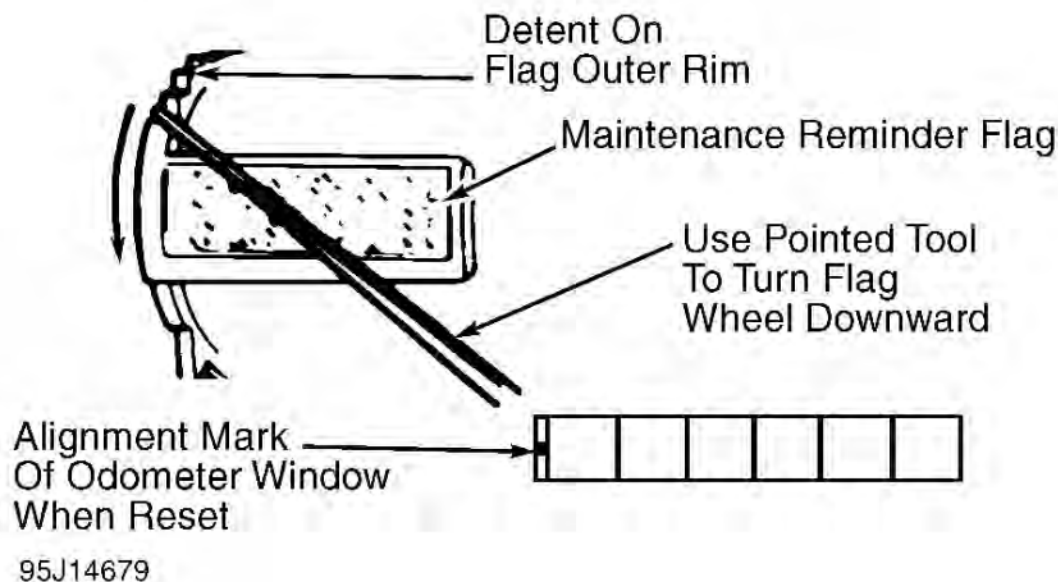

Fig. 3: Resetting Reminder Flag
1. Every 30,000 miles, a reminder flag appears in speedometer face, indicating service of oxygen sensor is necessary. See **Fig. 3**. Inspect and service oxygen sensor as necessary and reset flag.